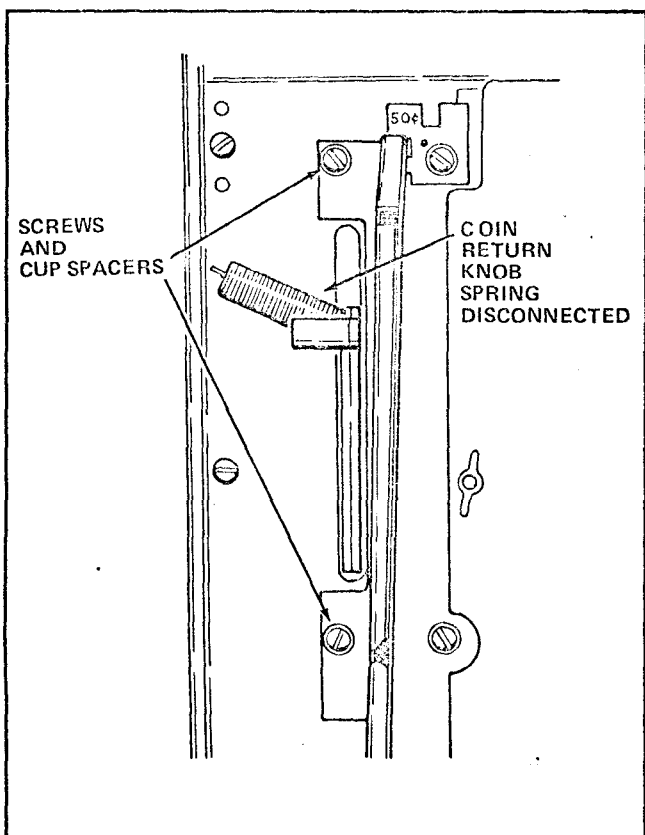

FIGURE 2
- a. ACMR equipped - removed 2 screws and Cup Spacers. See Figure 2.